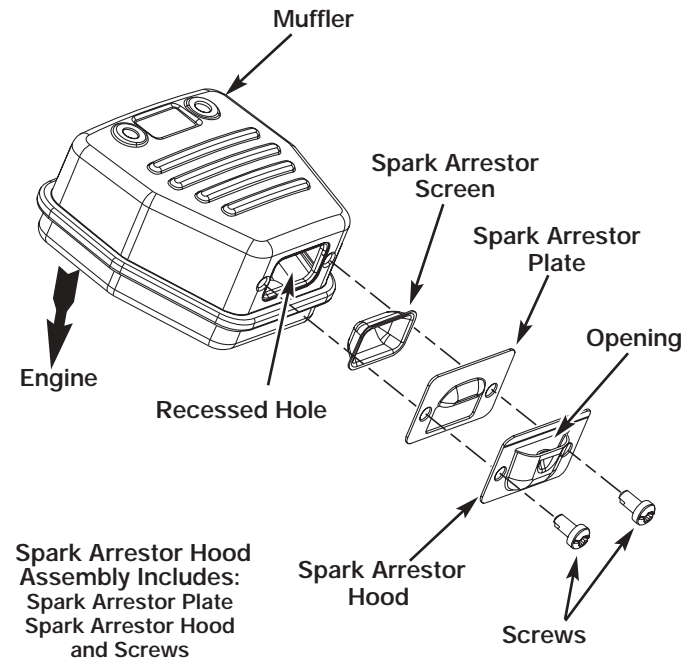

Fig. 31
2. Locate the muffler, but do not remove it. Find the two (2) screws on the bottom of the muffler (Fig. 31). These two screws hold the Spark Arrestor Hood Assembly and the spark arrestor screen to the bottom of the muffler. Remove the two (2) screws using either a torx #20 or flat blade screwdriver.
6. Place the spark arrestor plate on top of the spark arrestor with the "raised" side up and the opening facing towards the engine (Fig. 31).
7. Place the spark arrestor hood on top of the spark arrestor plate with the "raised" side up and the opening facing AWAY from the engine (Fig. 31). Verify that the exhaust will be directed AWAY from the engine.